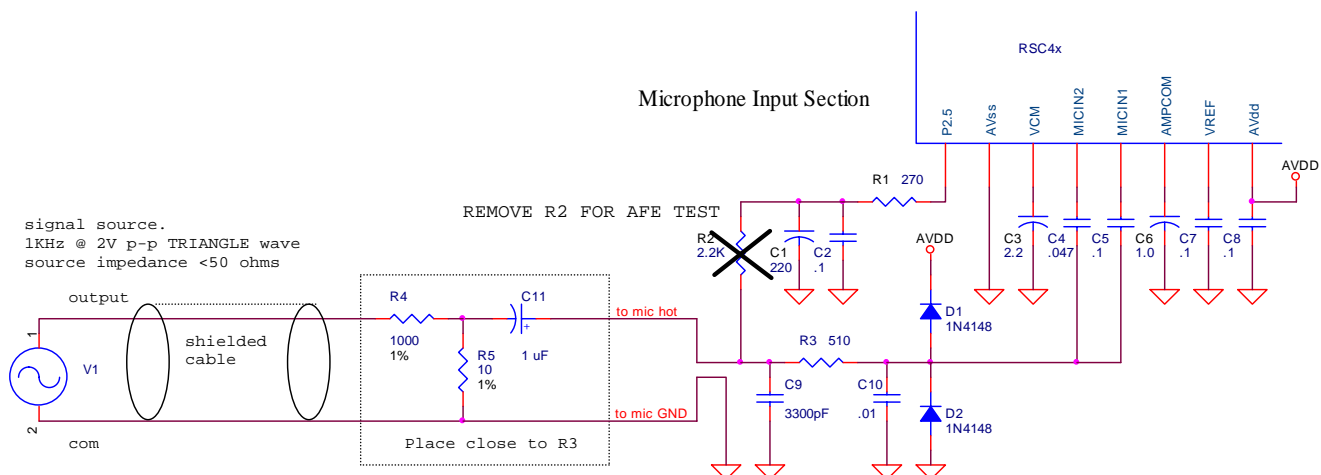

Figure 5 – Triangle Wave AFE test setup
- o Connect the wave source to the RSC as show in Figure 5 (don't forget to remove R2 for this test),